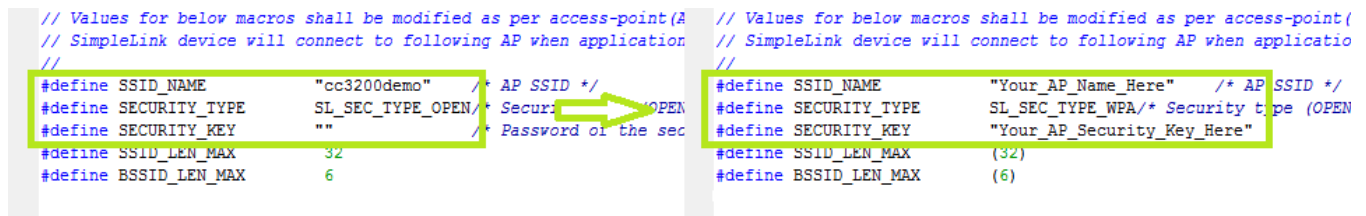

Figure 9. Editing *common.h*
10. Edit *common.h* to use the SSID, security type, and security key of the AP. Edit the macros `SSID_NAME`, `SECURITY_TYPE`, and `SECURITY_KEY` to contain the AP information as shown in Figure 9. The security types supported for this demo are WPA/WPA2 and Open. For Open security, define `SECURITY_TYPE` as `SL_SEC_TYPE_OPEN`. For WPA and WPA2 security, define it as `SL_SEC_TYPE_WPA`. Alternatively, the SSID and security of the AP can be changed to match the default (SSID: `cc3200demo`, Security: Open). For the `SSID_NAME` and `SECURITY_KEY`, the quotation marks must remain as part of the macro definition.